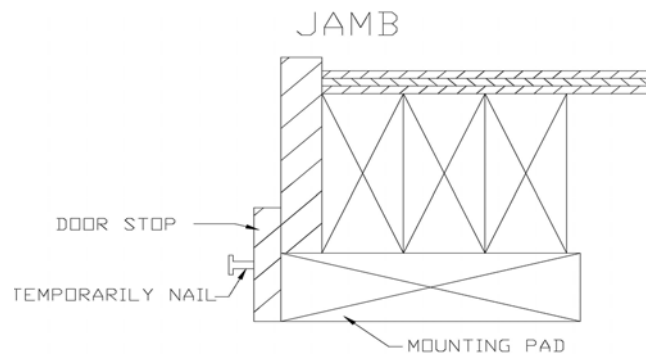

Figure 1
Step 1: Temporarily attach the door stop to the header and jambs. The door stop should be flush with the inside face of the jamb. See figure 1.